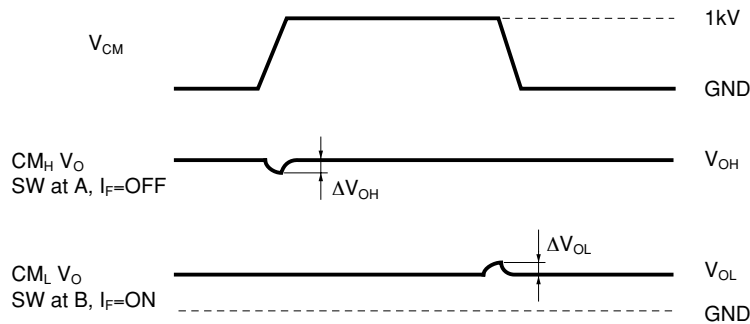

Fig.3 Forward Current vs. Ambient Temperature
*1 When ambient temperature goes above 70°C, the power dissipation goes down at 0.6 mA/°C. (Fig. 3)